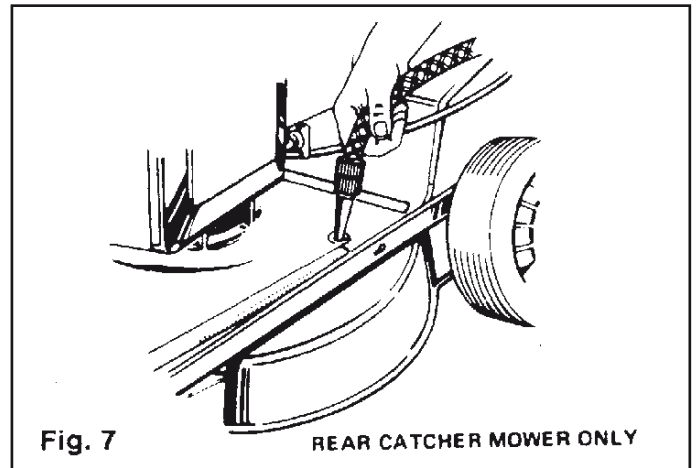

Fig. 7
2. To clean the rear catcher mower base use a hose to direct water through the wash port while the engine is running at a moderate speed. (Fig. 7).